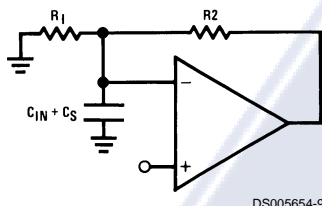

FIGURE 2.
**Input Capacitance:** The input capacitance,  $C_{IN}$ , of the LM146 is approximately 2 pF; any stray capacitance,  $C_S$ , (due to external circuit layout) will add to  $C_{IN}$ . When resistive or active feedback is applied, an additional pole is added to the open loop frequency response of the device. For instance with resistive feedback (*Figure 2*), this pole occurs at  $\frac{1}{2\pi} (R_1 || R_2) (C_{IN} + C_S)$ . Make sure that this pole occurs at least 2 octaves beyond the expected -3 dB frequency corner of the closed loop gain of the amplifier; if not, place a lead capacitor in the feedback such that the time constant of this capacitor and the resistance it parallels is equal to the  $R_1(C_S + C_{IN})$ , where  $R_1$  is the input resistance of the circuit.